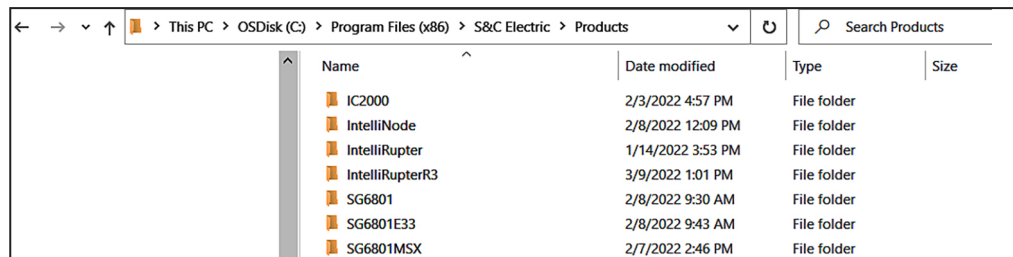

Figure 38. The selected program folder to be uploaded.
STEP 5. If any IntelliLink Setup Software is already installed, remove it by uninstalling it from the Windows program with the **Uninstall** option. See Figure 38.